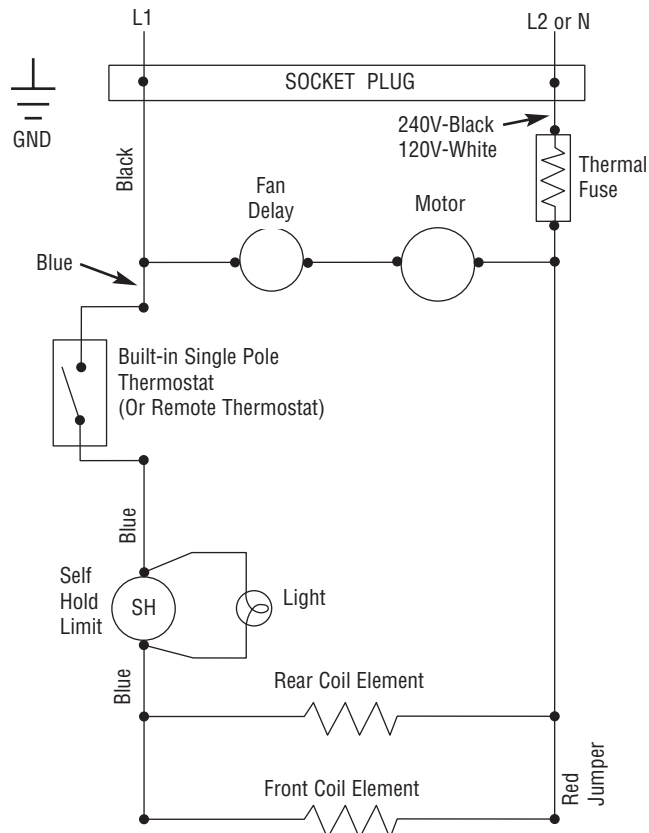

Figure 2 - Wiring With Internal Heater Mounted Thermostat
5. Make wiring connection, attaching field wiring to two (2) black pigtail leads for 240/208V model, or to black and white pigtail leads for 120V model with wirenuts (provided). Connect field ground lead to ground pigtail with wirenut (provided). See Figure 2.